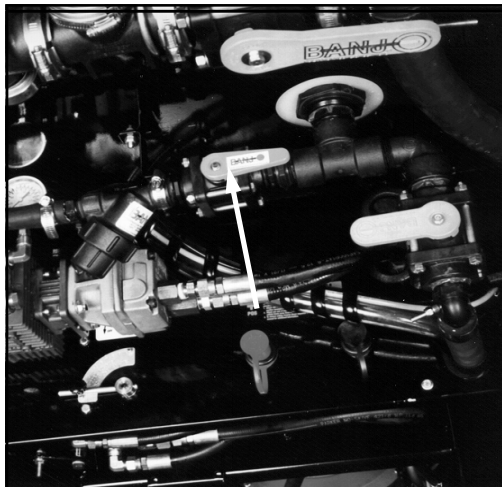

FIG 5.54
1. If equipped with pressure washing system option, close rinse supply valve to washer pump (fig. 5.54) Close the solution tank shutoff valves (see page 45).